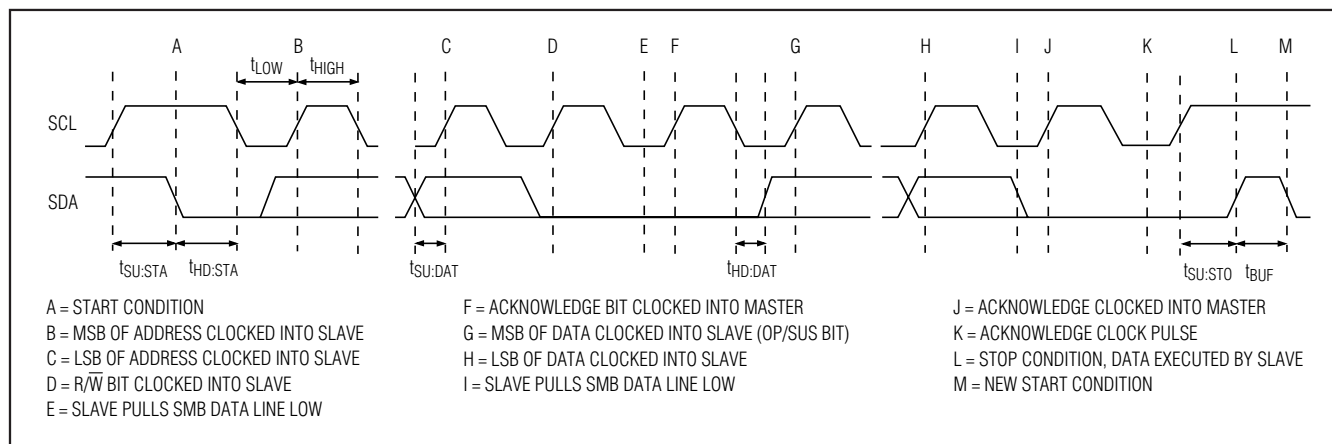

Figure 5. I²C-Compatible Serial-Interface Timing Diagram
The serial interface consists of a serial data line (SDA) and a serial clock line (SCL). Standard I²C-compatible write-byte commands are used. Figure 5 shows a timing diagram for the I²C protocol. The MAX1586/MAX1587 are slave-only devices, relying upon a master to generate a clock signal. The master (typically a microprocessor) initiates data transfer on the bus and generates SCL to permit data transfer. A master device communicates to the MAX1586/MAX1587 by transmitting the proper address followed by the 8-bit data code (Table 2). Each transmit sequence is framed by a START (A) condition and a STOP (L) condition. Each word transmitted over the bus is 8 bits long and is always followed by an acknowledge clock pulse.
When the serial interface is inactive, SDA and SCL idle high. A master device initiates communication by issuing a START condition. A START condition is a high-to-low transition on SDA with SCL high. A STOP condition is a low-to-high transition on SDA while SCL is high (Figure 5). A START condition from the master signals the beginning of a transmission to the MAX1586/MAX1587. The master terminates transmission by issuing a not acknowledge followed by a STOP condition